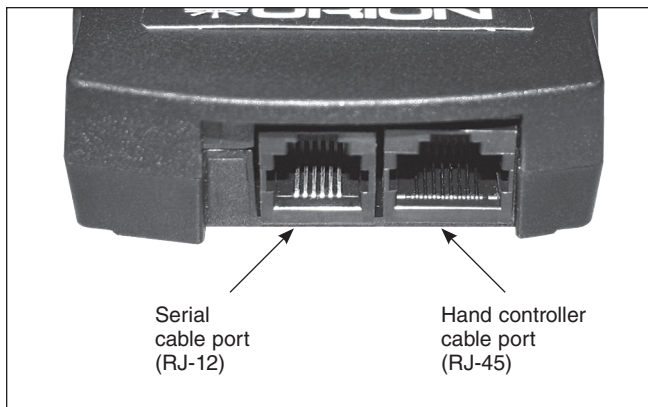

Figure 15. The GoTo hand controller ports
3. Connect the other end of the coiled cable to the hand controller modular jack (**Figure 15**).